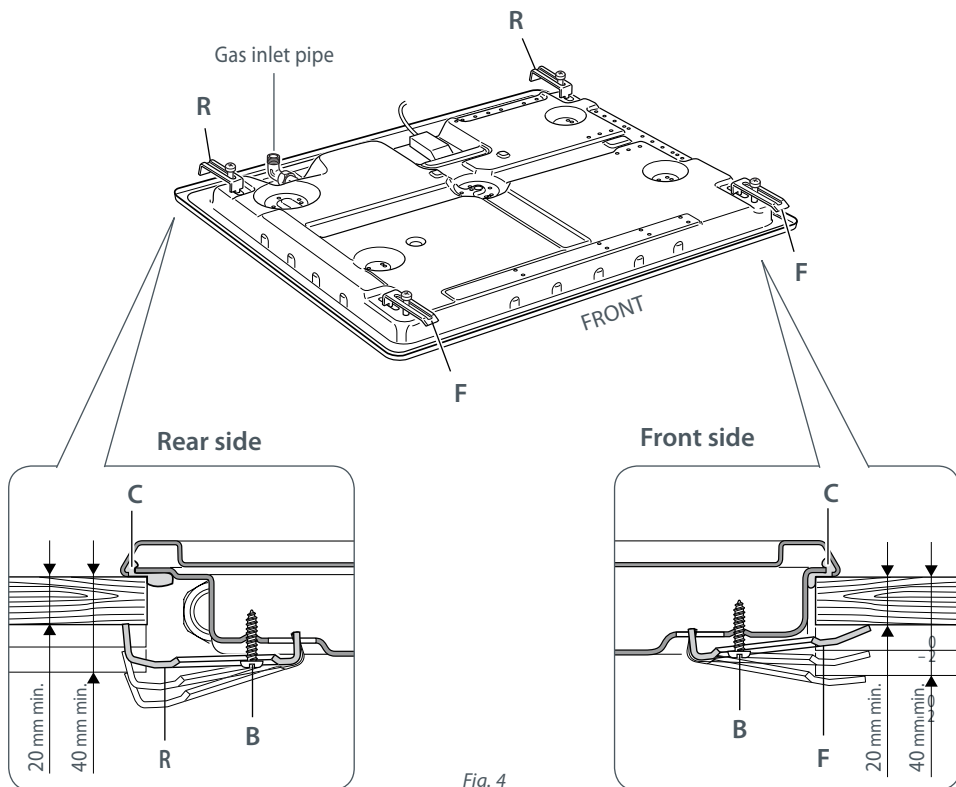

Fig. 4
### Fastening the installation brackets (fig. 4)
- Make sure that the brackets are fastened as shown in figure 4.
### Fastening the cooktop (fig. 4)